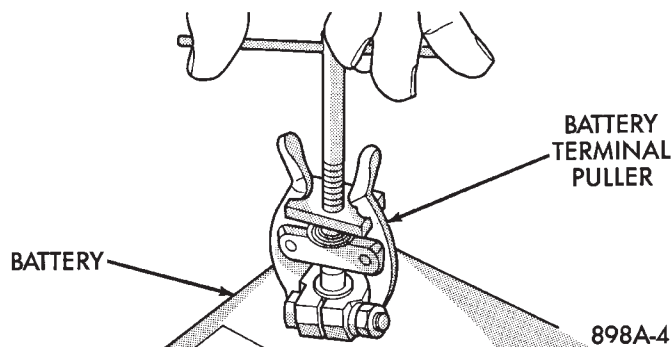

Fig. 2 Remove Battery Cables
- (1) Make sure ignition switch is in OFF position and all accessories are OFF.
- (2) Disconnect and remove the battery terminals from the battery posts. Remove negative battery cable first (Fig. 2).
- (3) Remove battery heat shield.